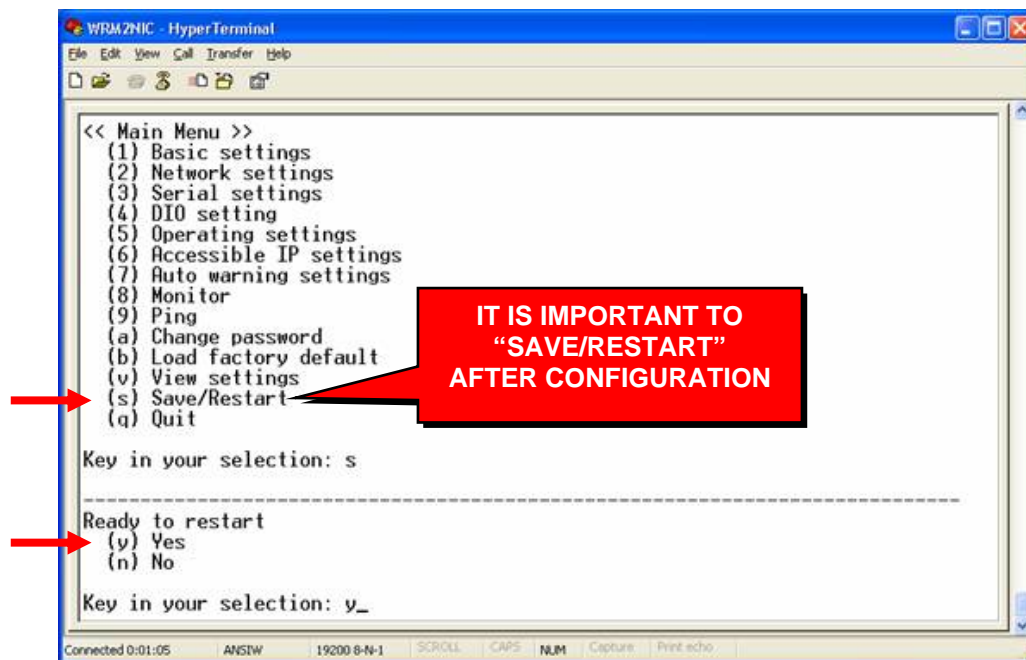

Figure 11: Main Menu
- The Main Menu will be displayed (**Figure 11** below):